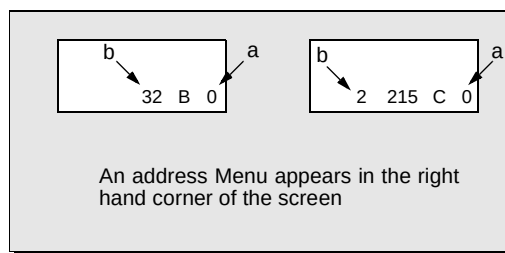

Figure 20. **Service Mode Menu Adjustments.**
Note: Only the applicable settings for the Receiver serviced will be available (See a in Fig. 20).
1. Press **Channel Up/Down** on the **Remote Control** to select one of the available Service Adjustments (**a** in Fig. 20).
Note: Write Down the original value set (**b** in Fig. 20) for each address before modifying anything. It is easy to erroneously adjust the wrong item.
2. Press **Volume Up/Down** on the **Remote Control** to adjust the level of the selected Service Adjustment (**b** in Fig. 20).
1. Press Channel Up/Down on the Remote Control to select one of the available Service Adjustments (a in Fig. 20).
- Note: Write Down the original value set (b in Fig. 20) for each address before modifying anything. It is easy to erroneously adjust the wrong item.*
2. Press Volume Up/Down on the Remote Control to adjust the level of the selected Service Adjustment (b in Fig. 20).
Note: Write Down the original value set (b in Fig. 20) for each address before modifying anything. It is easy to erroneously adjust the wrong item.